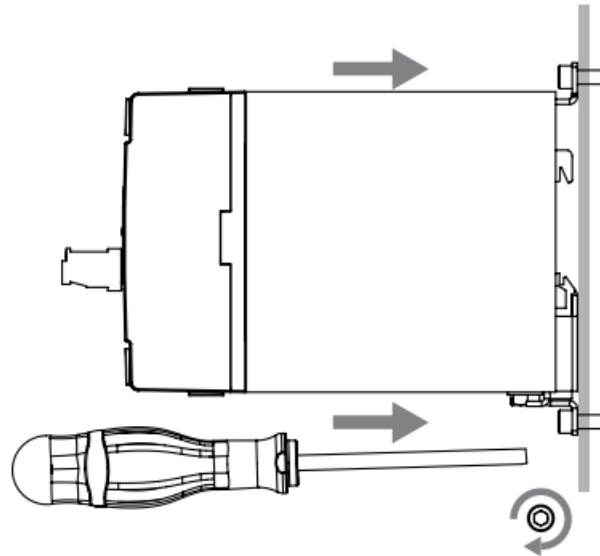

fig. 2 SSR mounted on Panel Mount
- Locate the panel section on which the DR45 SSR will be mounted on (as shown in fig.2)
- To achieve maximum ratings, there must be a minimum spacing of 0.89 in (22.5 mm) between the devices in free air (as shown in fig.2).